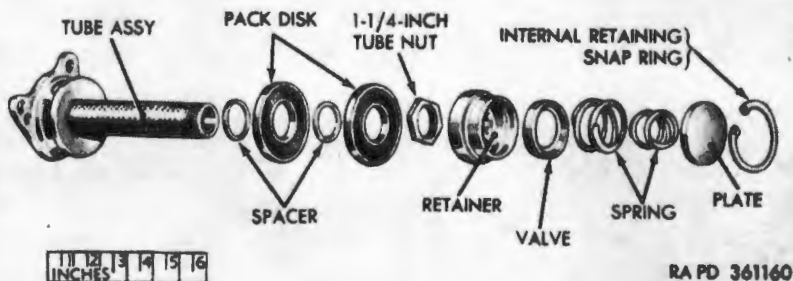

Figure 183. Main oil filter—exploded view.
- (2) *Main oil filter.* Remove internal retaining snap ring (fig. 183) securing plate, springs, and valve in retainer. Remove plate, springs, and valve and unscrew retainer from tube assembly. Inspect springs for cracks, fatigue, or weakened condition. Replace if necessary. Unscrew tube nut holding pack disks and spacers in position on tube and slide off disks and spacers. Discard any damaged pack disks. Wash all parts thoroughly in dry-cleaning solvent or mineral spirits paint thinner.
- (2) **Main oil filter.** Install pack disks (fig. 183) and spacers alternately on tube assembly and secure with 1 $\frac{1}{4}$ inch tube nut. Install retainer on tube assembly. Insert valve, springs, and plate in retainer and secure with internal retaining snap ring.